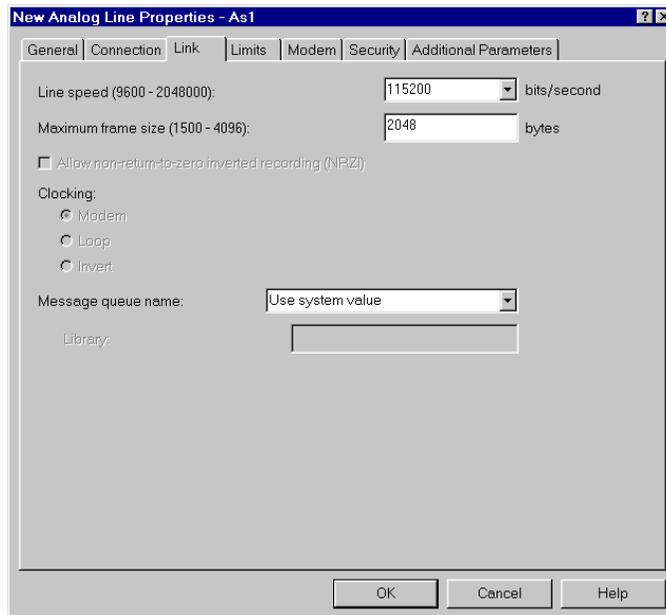

Figure 18. Setting the line speed and maximum frame size
6. Click the **Link** tab (Figure 18).